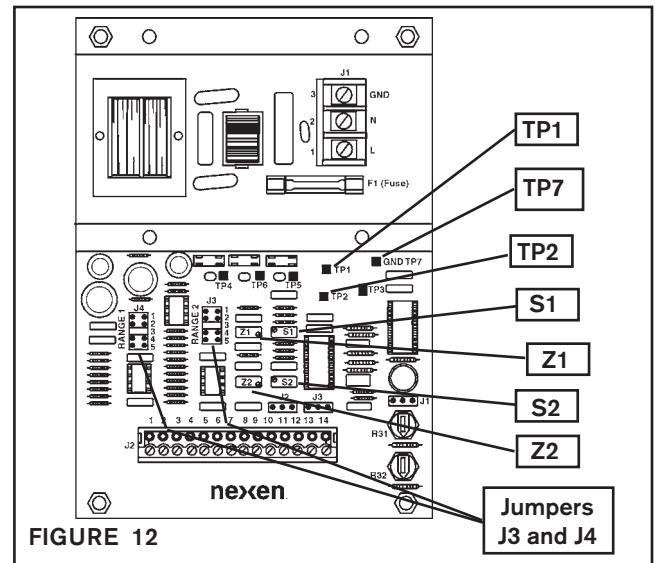

FIGURE 12
3. Rotate both **S1** and **S2** counterclockwise to minimum (See Figure 12).
4. Connect a voltmeter to **TP7 (COM)** and **TP1** (See Figure 12).
5. Rotate **Z1** to 0.0VDC at **TP1** (See Figure 12).
6. Connect a voltmeter to **TP7 (COM)** and **TP1** (See Figure 12).
7. Rotate **Z2** to 0.0VDC at **TP2** (See Figure 12).